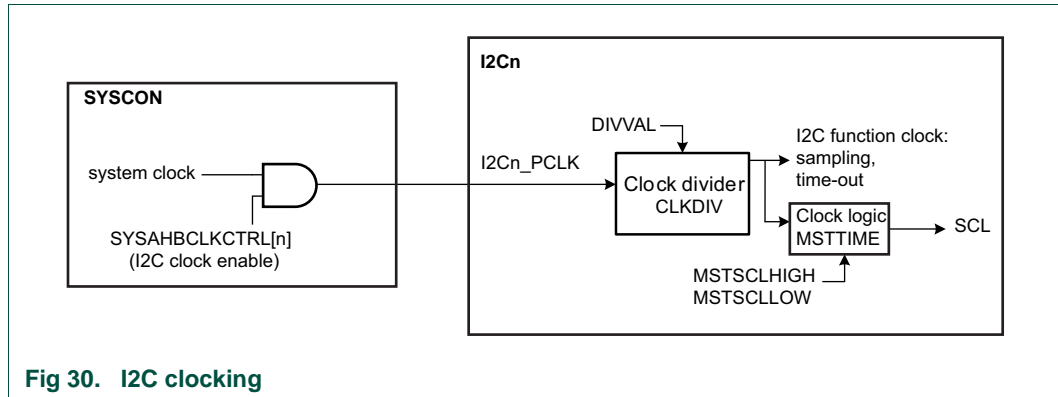

Fig 30. I2C clocking
- The peripheral clock for the I2C is the system clock (see Figure 30).